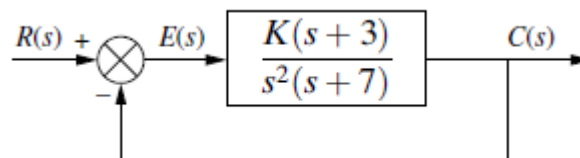

Fig. 12
12. For the system shown in Fig. 12, find the value of gain  $K$  to give a steady-state error of 0.061 at input  $10t^2u(t)$